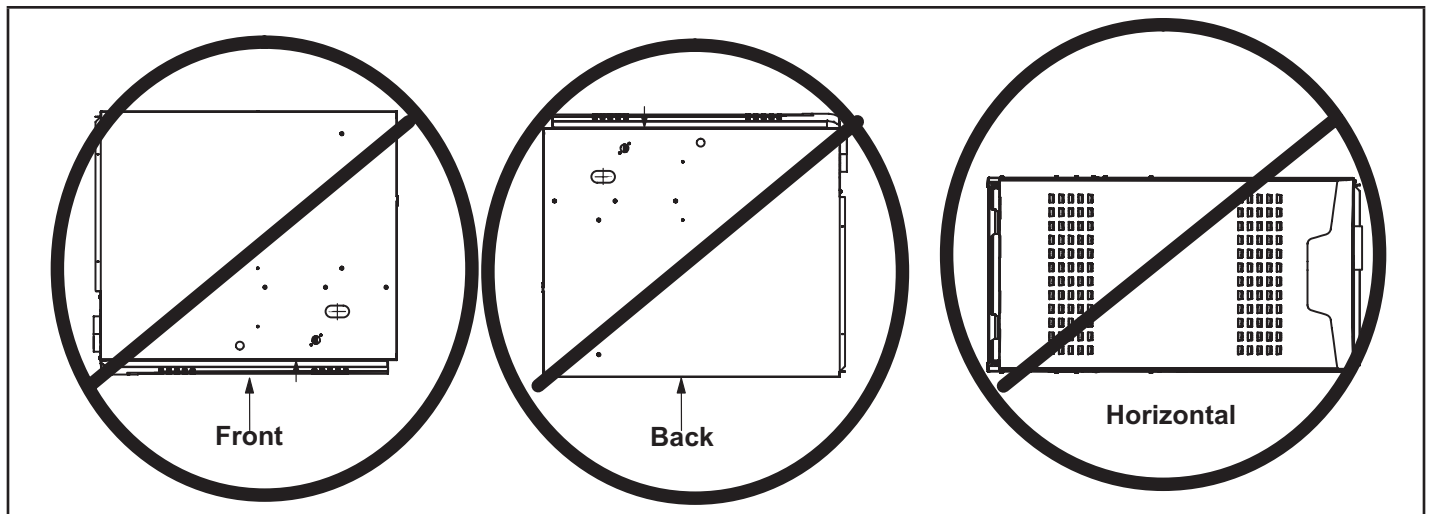

Figure 12
**Do not install the furnace on its front, back or in the horizontal position. See FIGURE 12. Do not connect the return air ducts to the back of the furnace. Doing so will adversely affect the operation of the safety control devices, which could result in personal injury or death.**